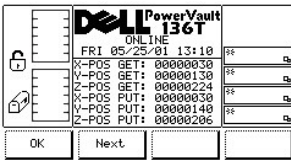

Figure 17. Status >Library > Slot > X, Y, Z Position Slot Dialog
- 1 If the button beneath the **Next** softkey is selected, the Reserved Slot Dialog is displayed. See Figure 17.